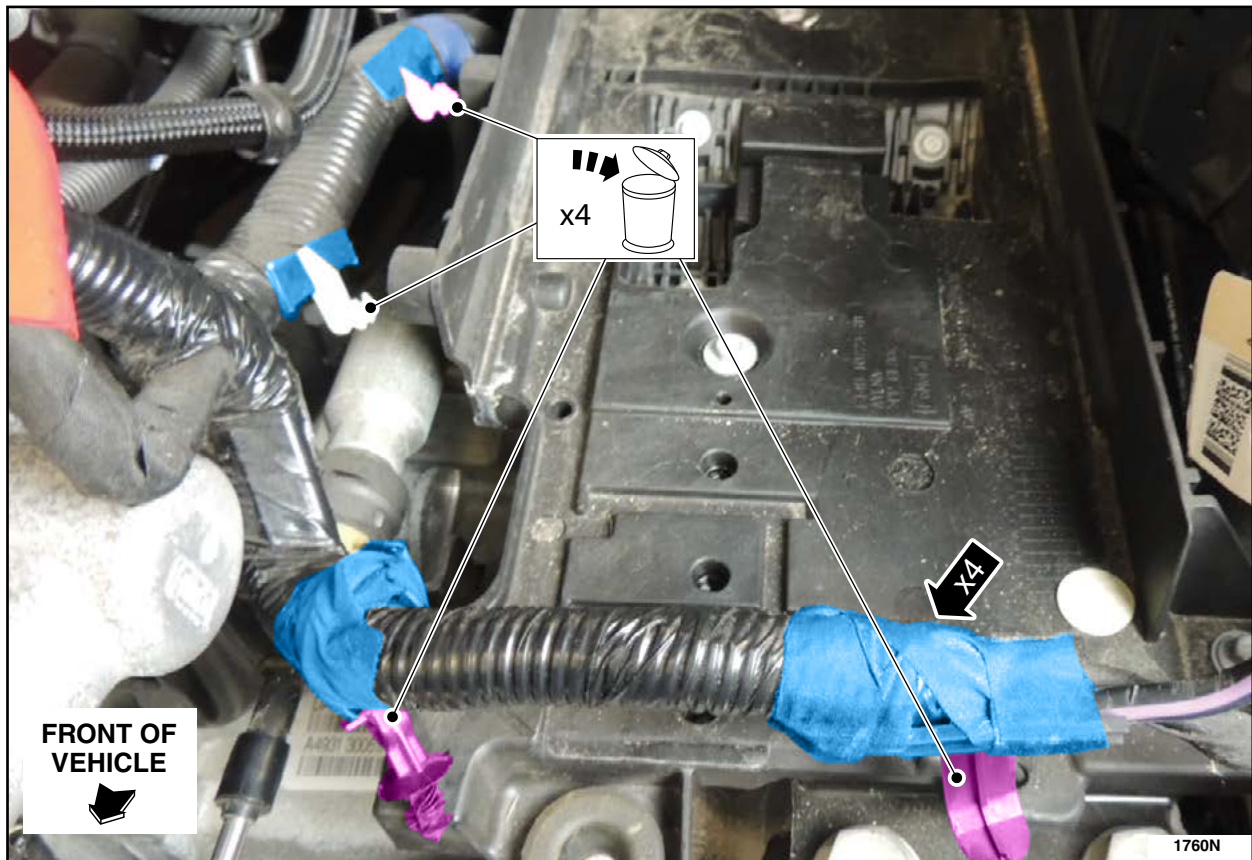

FIGURE 2
3. Unwrap, remove and discard the battery cable wiring harness retaining clips. Tape up any areas that may have been exposed with Coroplast® brand or similar anti-abrasion wire harness cloth tape. If any unreparable damage is found please contact the Special Service Support Center (SSSC) for further assistance. See Figure 2.